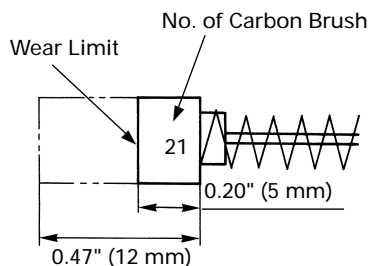

Fig. 7
4. Inspecting the carbon brushes (Fig. 7)
NOTE: Use HITACHI carbon brush No. 21 indicated in Fig. 7.